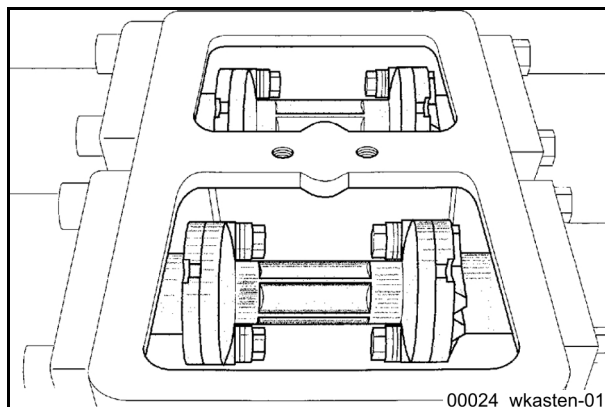

Fig. 187
- Move the pumping piston to just before the rear end position. The distance piece (**Fig. 187**) must be fully visible in the water box.